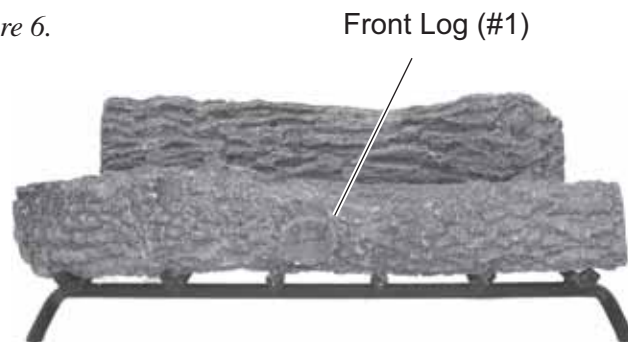

Figure 60 - Placing Front Log (#2) on Front Grate
2. Place Front Log #1 on front of grate. *See Figure 60.*